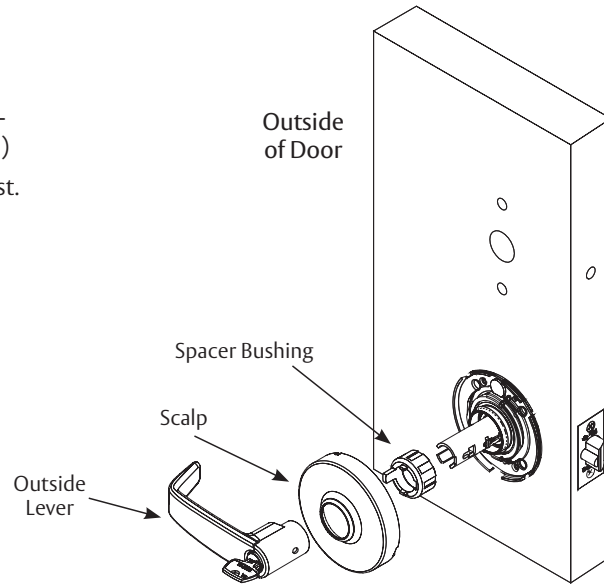

Fig. 10
- Remove outside lever, scalp and spacer bushing (Fig. 10)